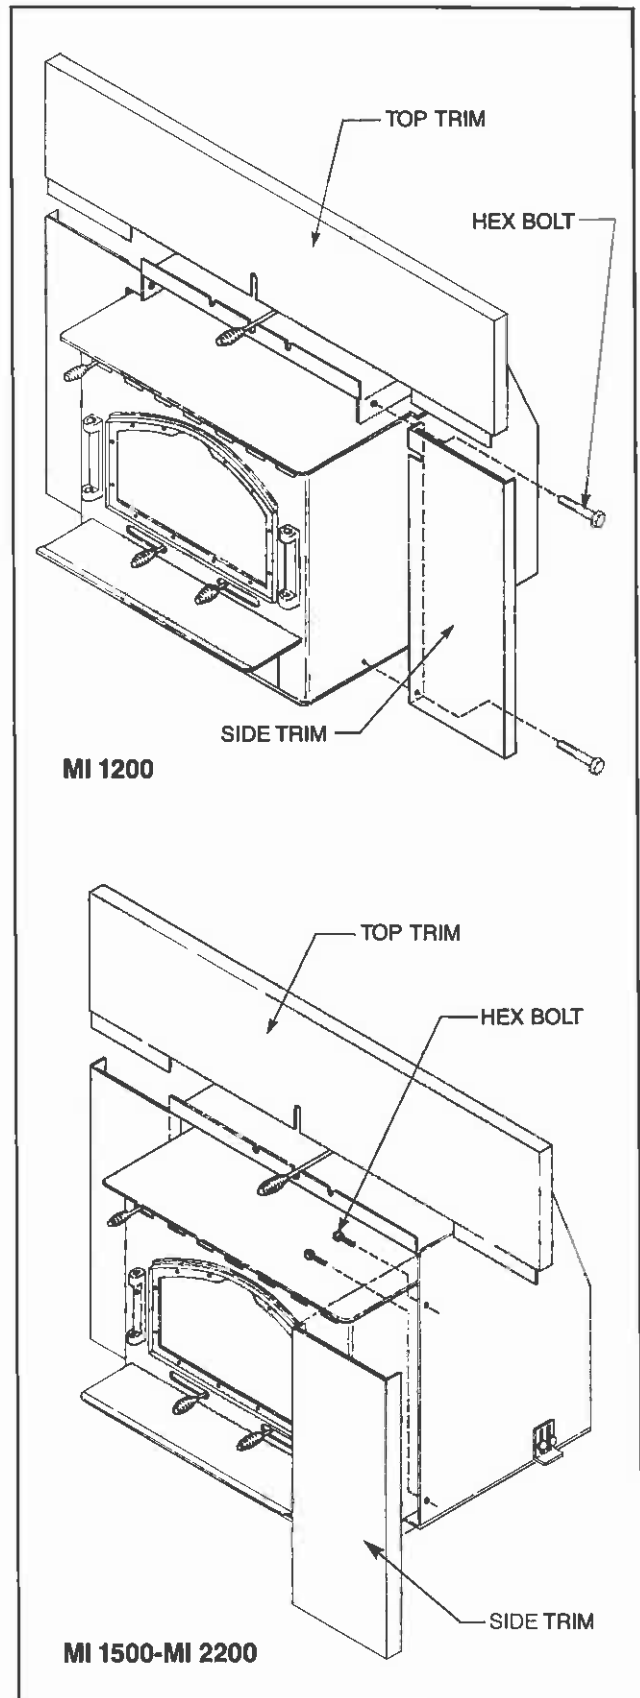

Fig. 6. Assemble trim kit.
C. Mount the 2 side pieces on the unit with the bolts provided. Top surround panel will then fit over side pieces sliding tabs in top pieces into slots in each side piece (See Fig. 6). Bend out insulation spikes on back of trim pieces and carefully push insulation pieces over spikes. Bend spikes down to secure.